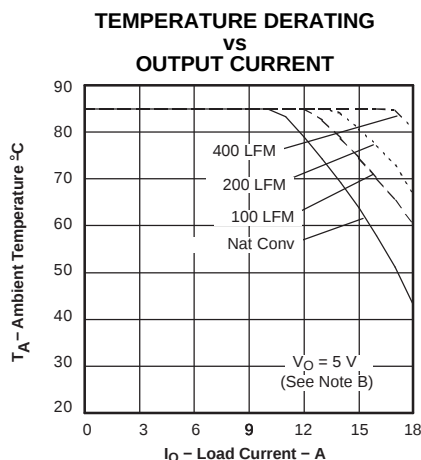
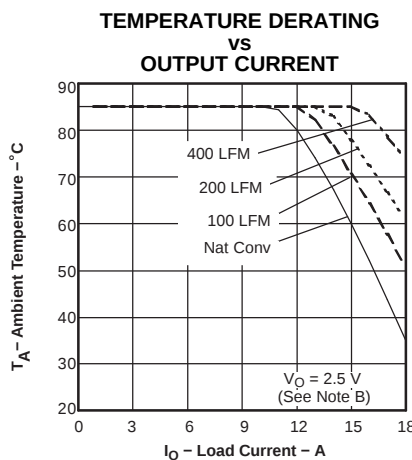
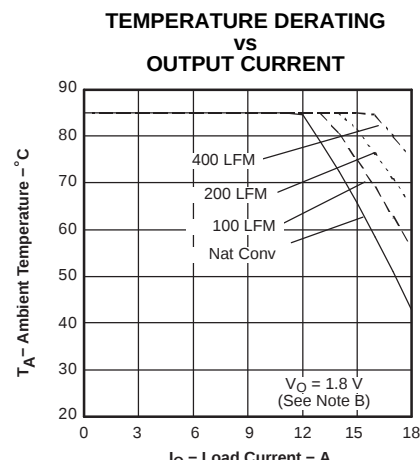

Figure 4.
Figure 5.
Figure 6.
- (2) Note B: The temperature derating curves represent the conditions at which internal components are at or below the manufacturer's maximum operating temperatures. Derating limits apply to modules soldered directly to a 4 inch × 4 inch double-sided PCB with 1oz. copper. For surface mount products (AS and AZ suffix), multiple vias (plated through holes) are required to add thermal paths around the power pins. Please refer to the mechanical specification for more information. Applies to Figure 4, Figure 5 and Figure 6.